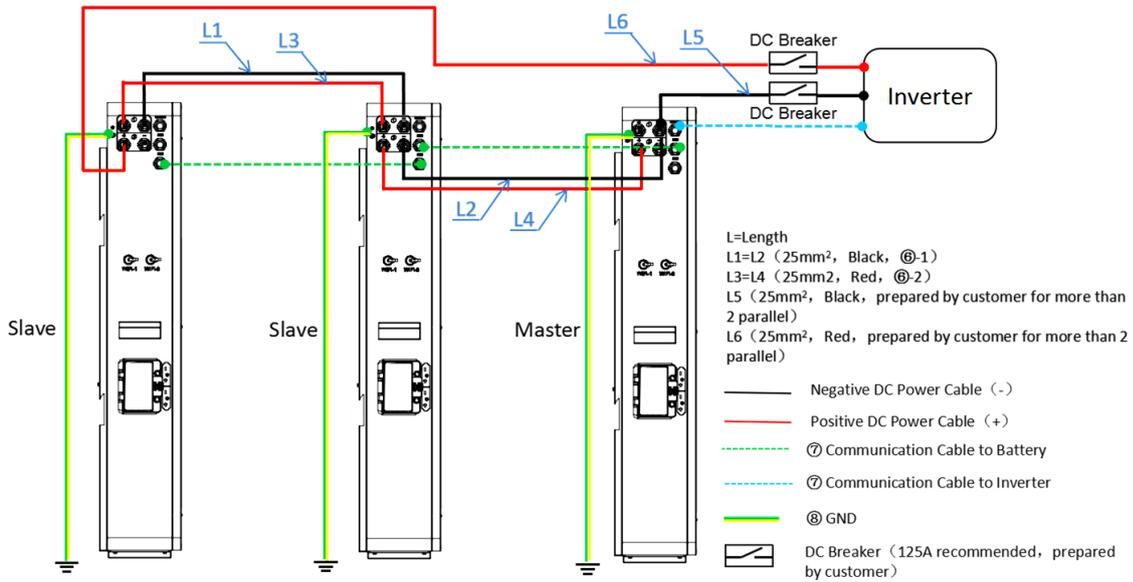
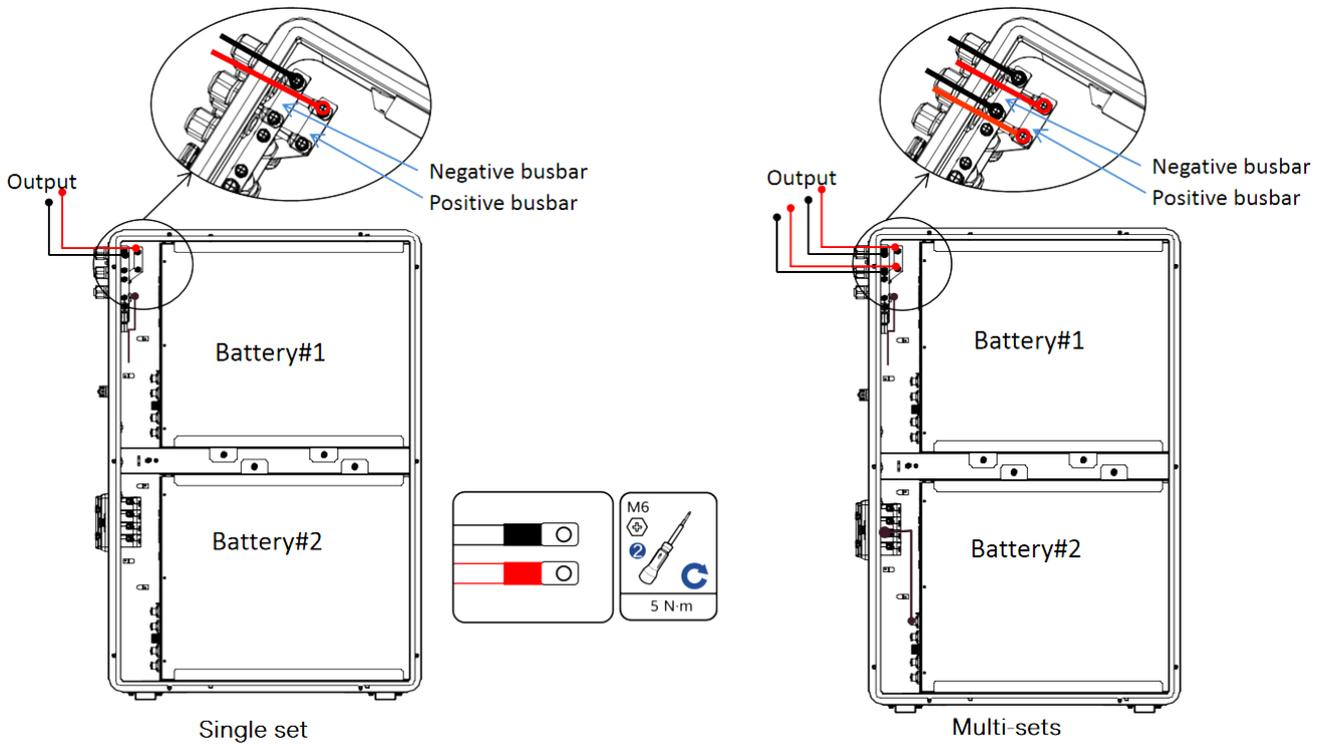

Fig.5.1.1 Multi-Sets Connection(Example: 3 Parallel,30kWh,Output Power 5kW)
Fig. 5.3.4 DC Output Power Cable Wiring diagram
Use a screwdriver to fix the ⑧ ground wire terminal to the battery ground point refer to Fig. 5.1.1.
3.If the power cable is connected according to Fig.5.1.1, insert the power cable into the corresponding PG 19, and then fix the power cable terminal refer to Fig. 5.3.4.